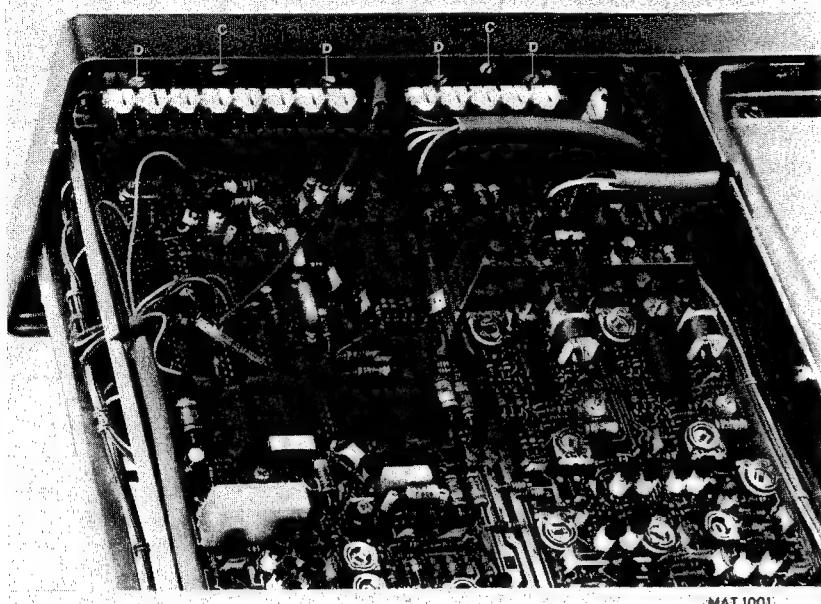

Fig. 6.6.
- Remove the two screws C (Fig. 6.6.).
- Remove the four screws D that secure the pushbutton switches to the front panel (Fig. 6.6.).